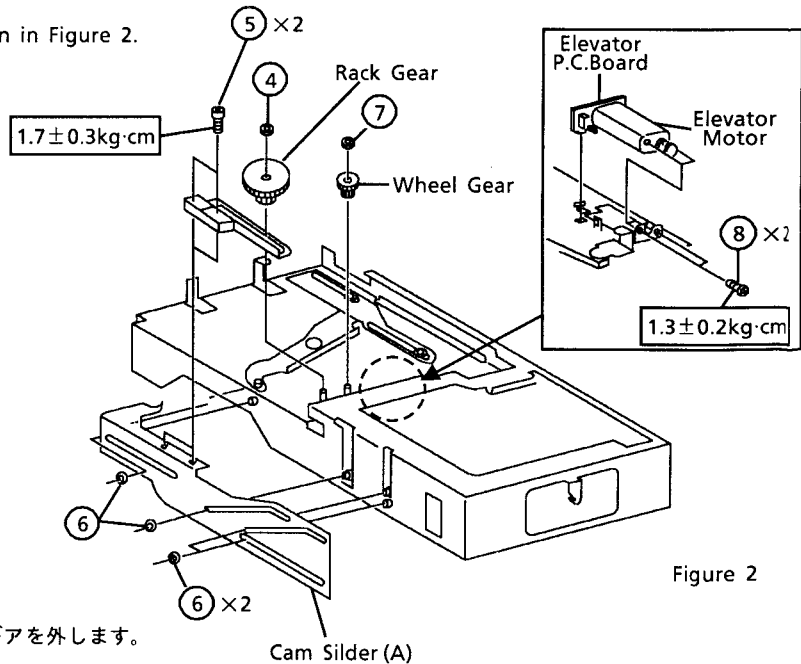

Figure 2
- (1) Remove the Rack Gear, by removing the washer ④ as shown in Figure 2.
- (2) Remove the Elevator Rack, by removing two screw ⑤ as shown in Figure 2.
- (3) Remove the four washer ⑥ as shown in Figure 2.
- (1) After removal of Elevator Rack, remove the Wheel Gear by removing the washer (7) as shown in Figure 2.